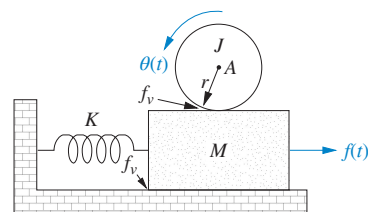

FIGURE P2.27
42. In the system shown in Figure P2.27, the inertia,  $J$ , of radius,  $r$ , is constrained to move only about the stationary axis  $A$ . A viscous damping force of translational value  $f_v$  exists between the bodies  $J$  and  $M$ . If an external force,  $f(t)$ , is applied to the mass, find the transfer function,  $G(s) = \theta(s)/F(s)$ . [Sections: 2.5; 2.6]